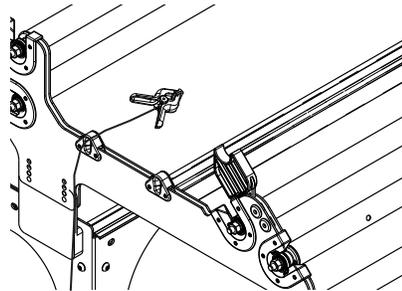

Fig. 13-1
**13-1:** Thread the bungee cord from the inside of the frame through the bungee slot and then pull the cord in a downward movement to lock the bungee clamp in place. (Fig. 13-1)